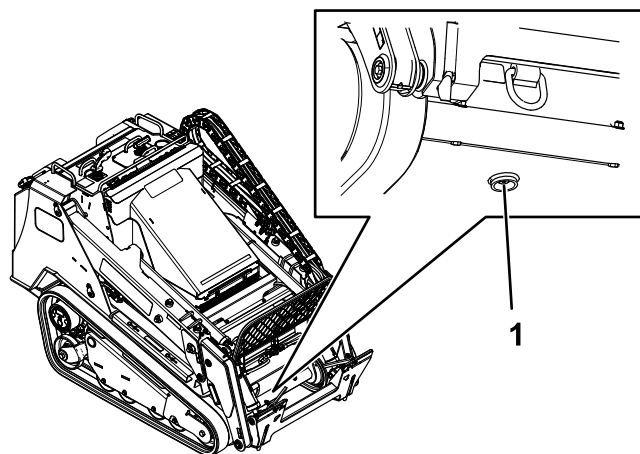

Figure 78
6. Place a large drain pan capable of holding 57 L (15 US gallons) under the drain plug on the front of the machine (Figure 78).
7. Remove the drain plug and allow the oil to drain into the pan (Figure 78).